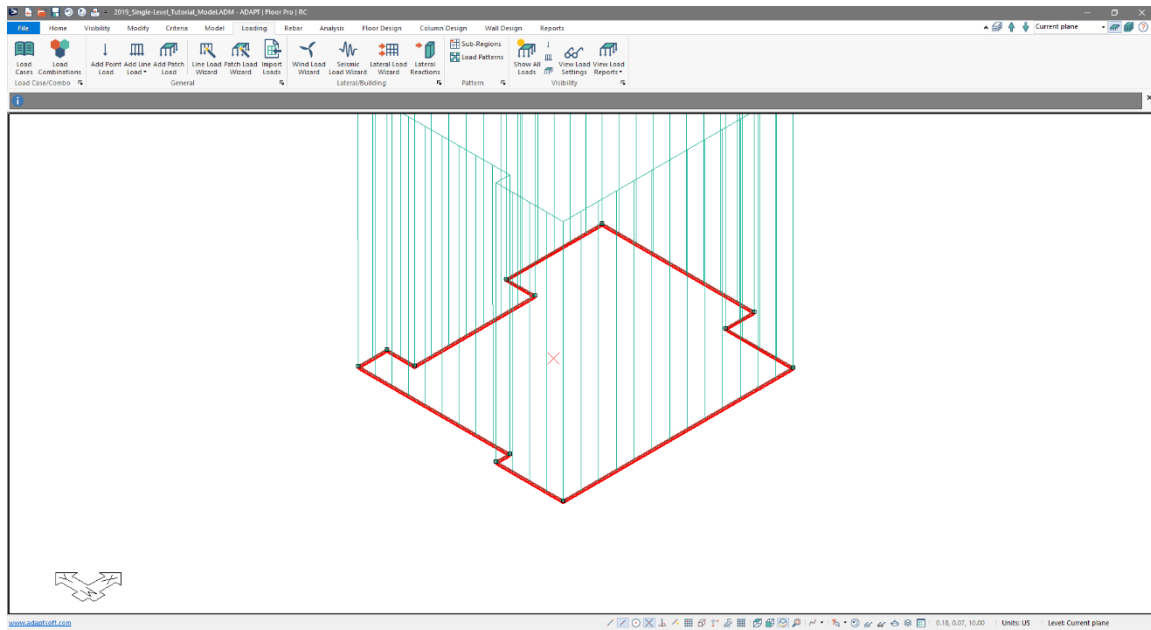

Figure 4-7
- The user will now see green lines representing the projection of the cladding load as shown in **FIGURE 4-7**. At this point we have successfully applied a 400plf cladding line load to the slab region.